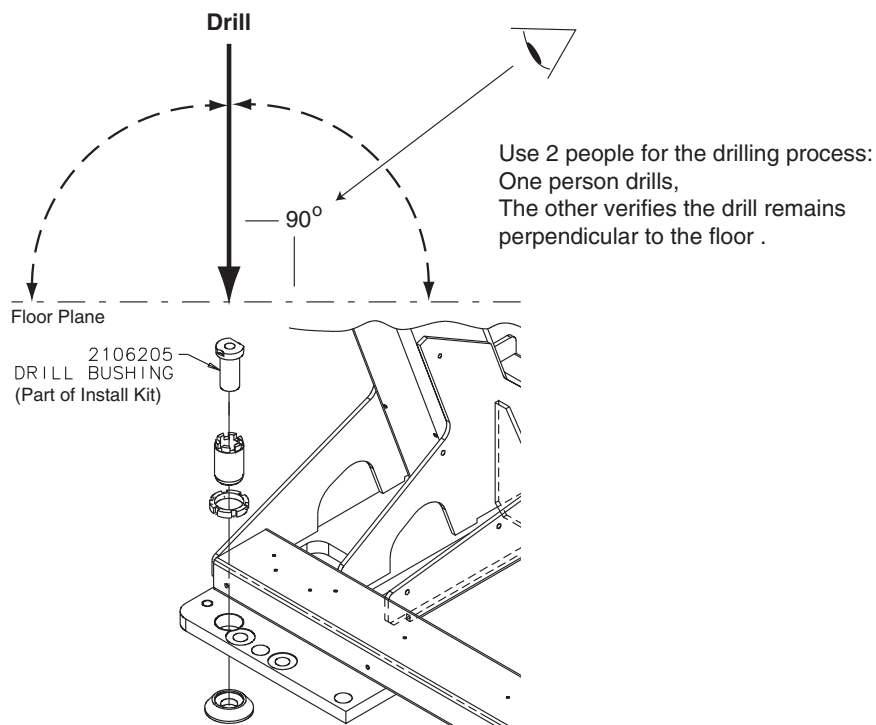

Figure 1-36 Drilling Position
- Review Figure 1-36, prior to drilling.